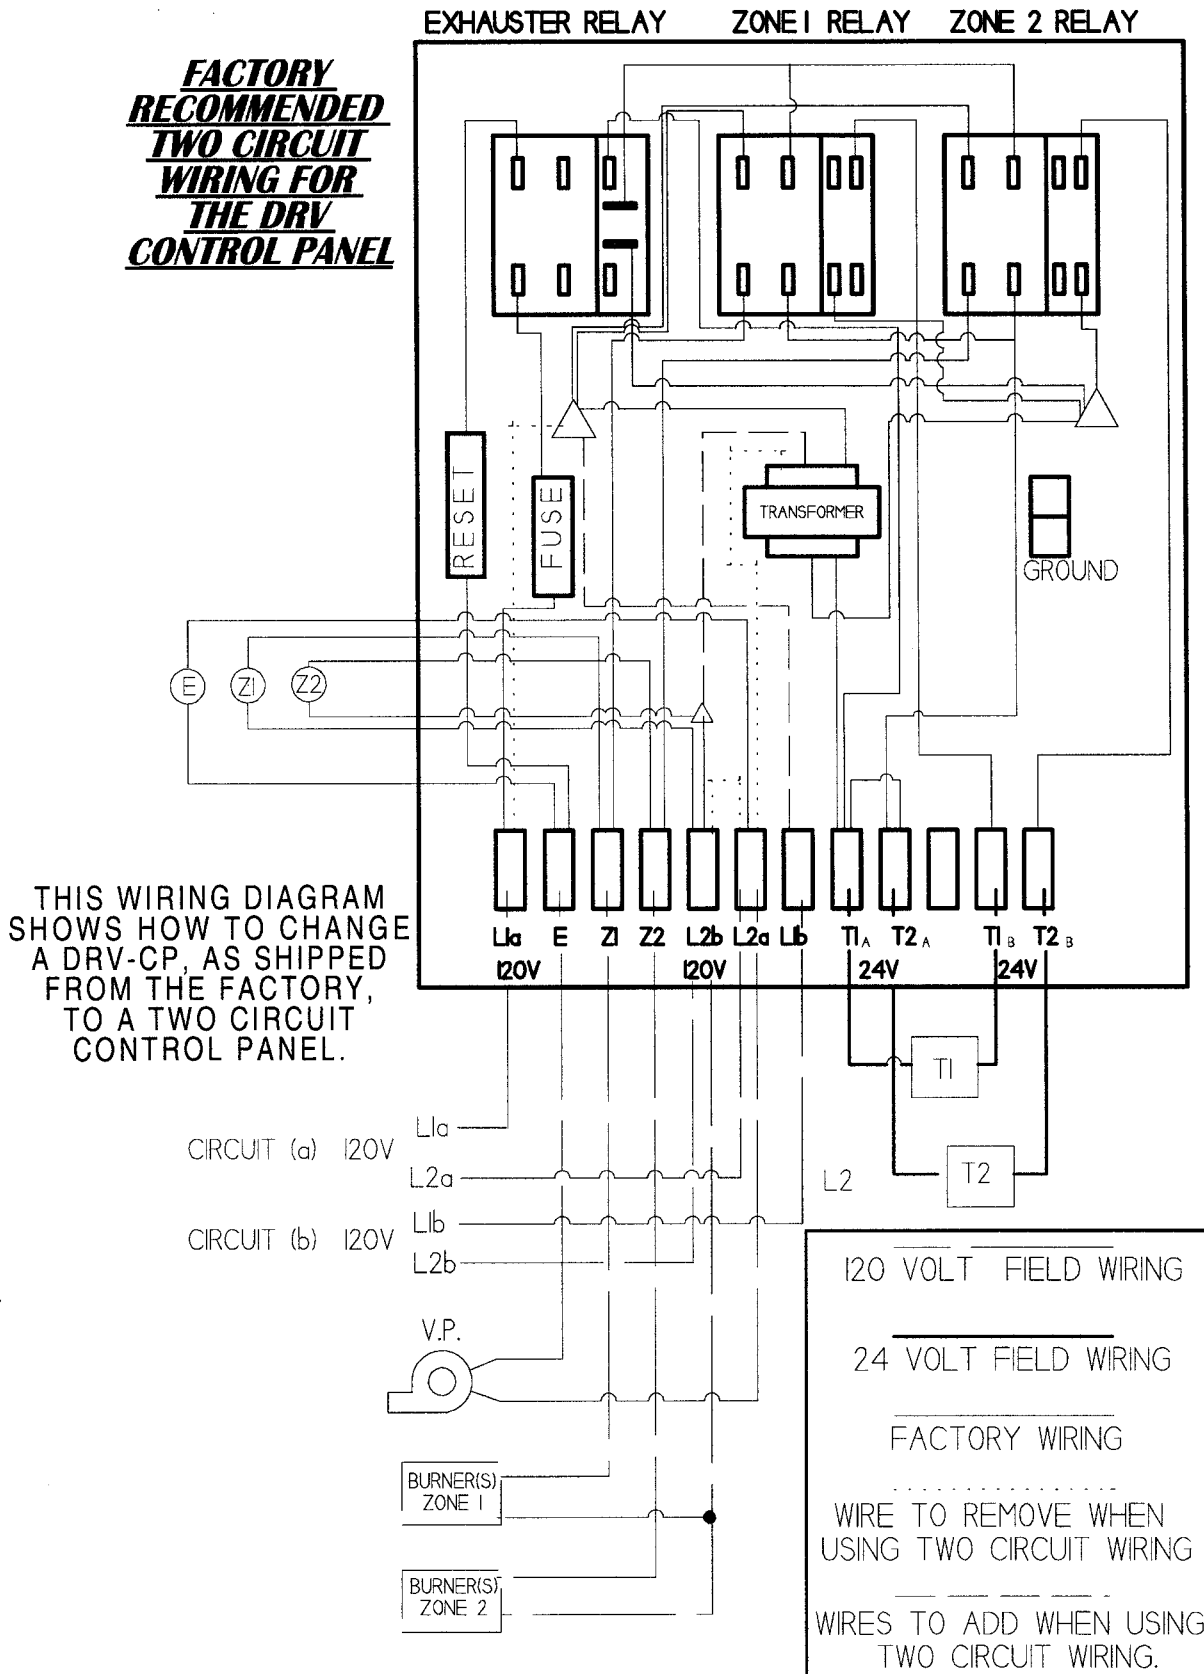

Figure 2.27
5. Figure 2.27 illustrates the factory recommended wiring when two circuits are required. Two circuits are required if the total starting amperages of the burner control boxes in addition to the running amperage of the pump exceeds the capacity of the circuit (see Chart 2).